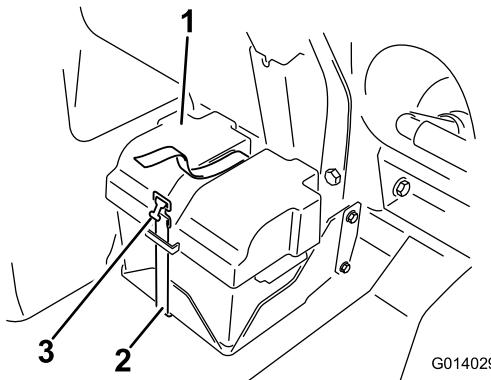

Figure 126
- Remove the battery cover and disconnect the negative (black) ground cable from the battery post (Figure 126).
4. Install the battery cover and secure it with the strap that you removed previously (Figure 126).